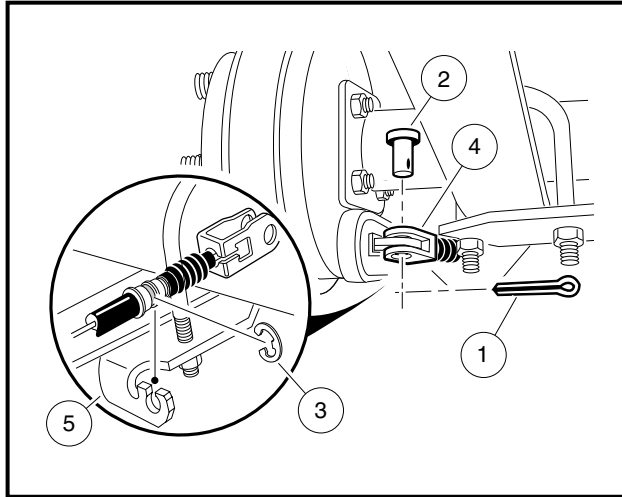

Figure 6-39 Disconnect Cables at Rear Brakes
- 4.1. Remove cotter pins (1), clevis pins (2), and E-clips (3) (**Figure 6-39, Page 6-24**).
2. At the rear wheel brakes, connect the cables to the brake actuator arms using clevis pins (2) and new cotter pins (1) (**Figure 6-39, Page 6-24**).
3. Place cables in cable support bracket (5) and secure with E-clips.